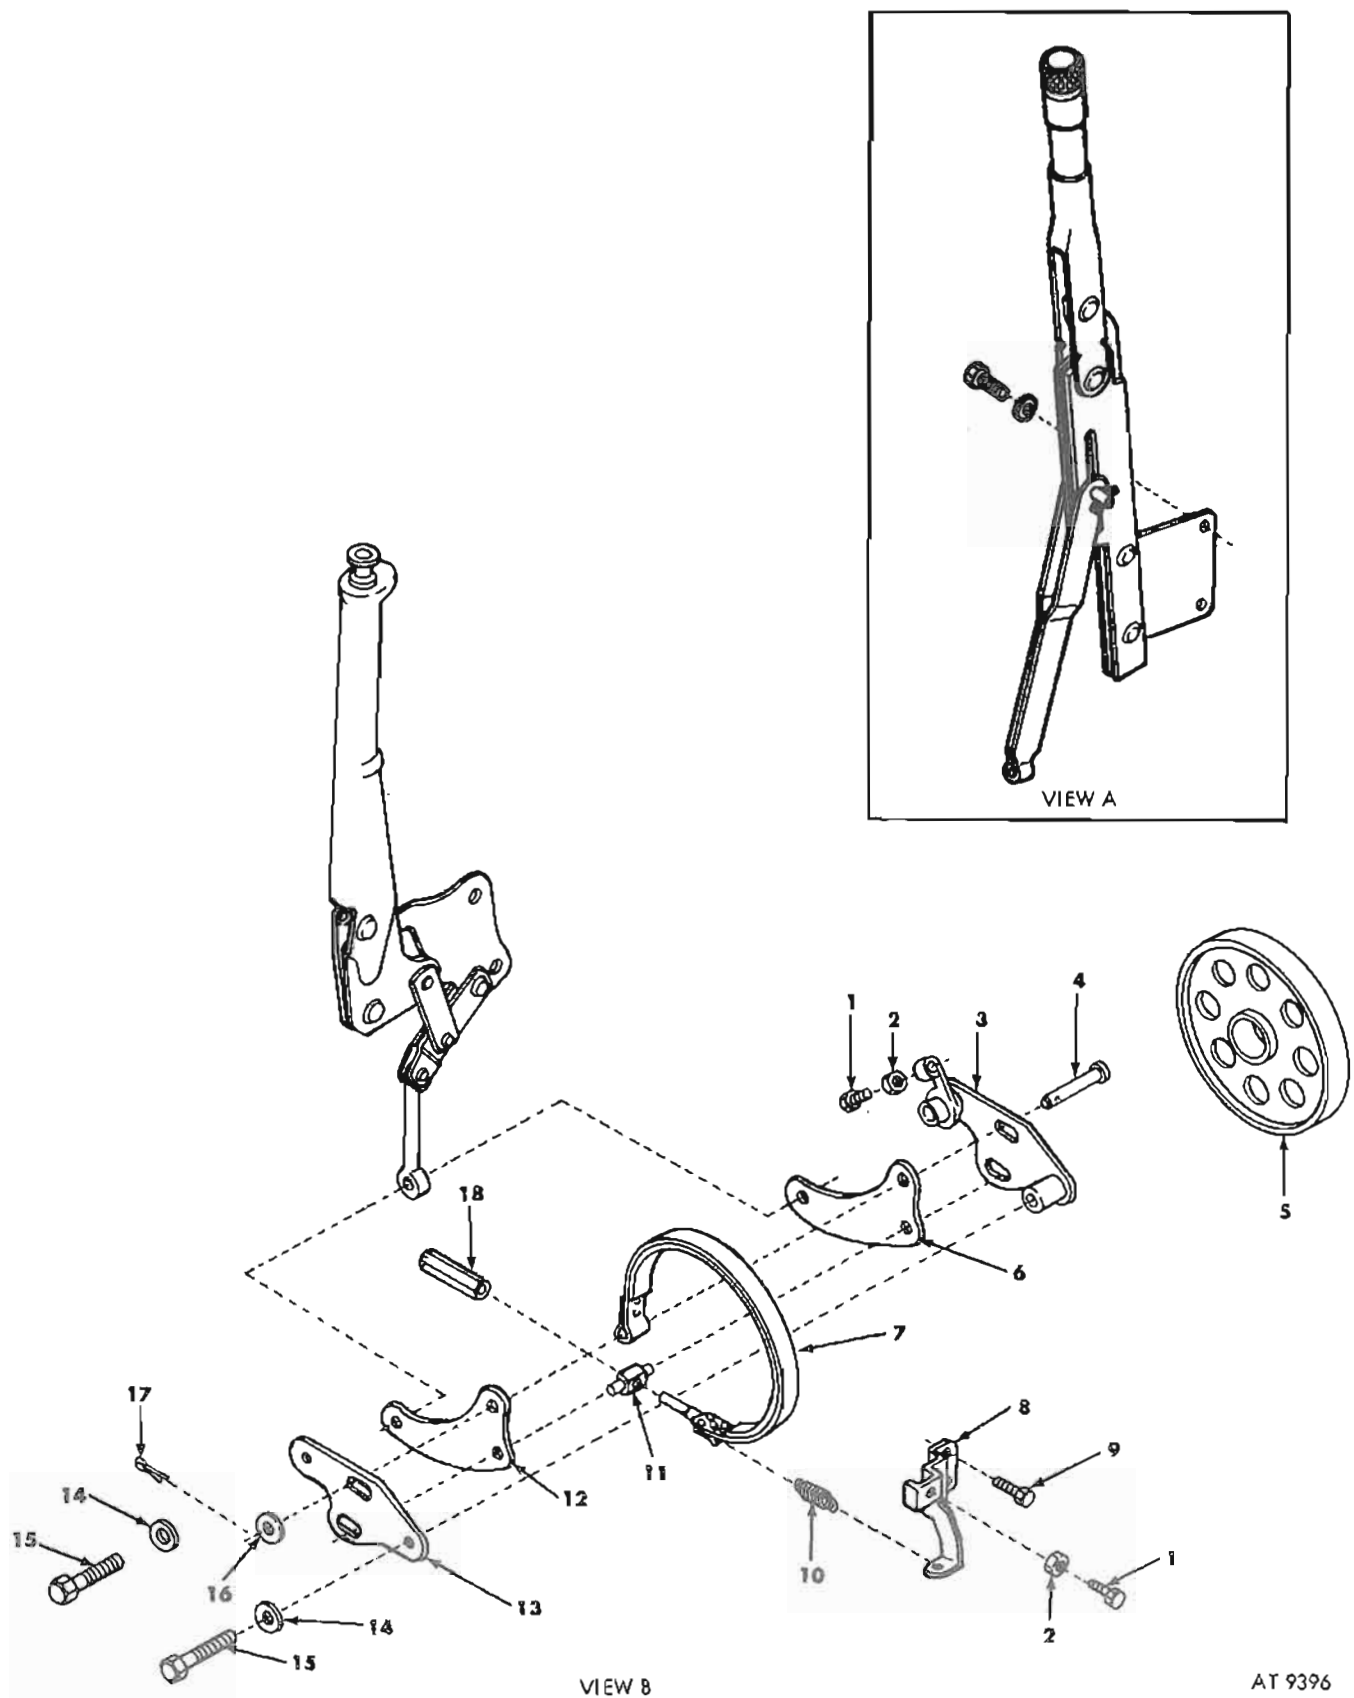

Figure 13-9. Handbrake assy—exploded view.
d. *Brake Band Assembly* (fig. 13-9). Inspect condition of lining. Lining must be securely attached to the brake band and show no evidence of oil or grease. Check thickness of lining. If worn so that lining thickness above any rivet head is less than $1/32$ inch, the band assembly must be replaced. Inspect threads on band adjusting stud and nut; if damaged, discard band assembly or nut. Inspect support and level assembly for damage; discard defective parts.
e. *Brakedrum* (fig. 13-9). Inspect brakedrum for cracks or other evidence of damage. Discard if defective. Inspect braking surface for scoring; badly scored drum may be reclaimed by machining. In no case may drum be turned down so outside diameter is less than 5.940 inches.